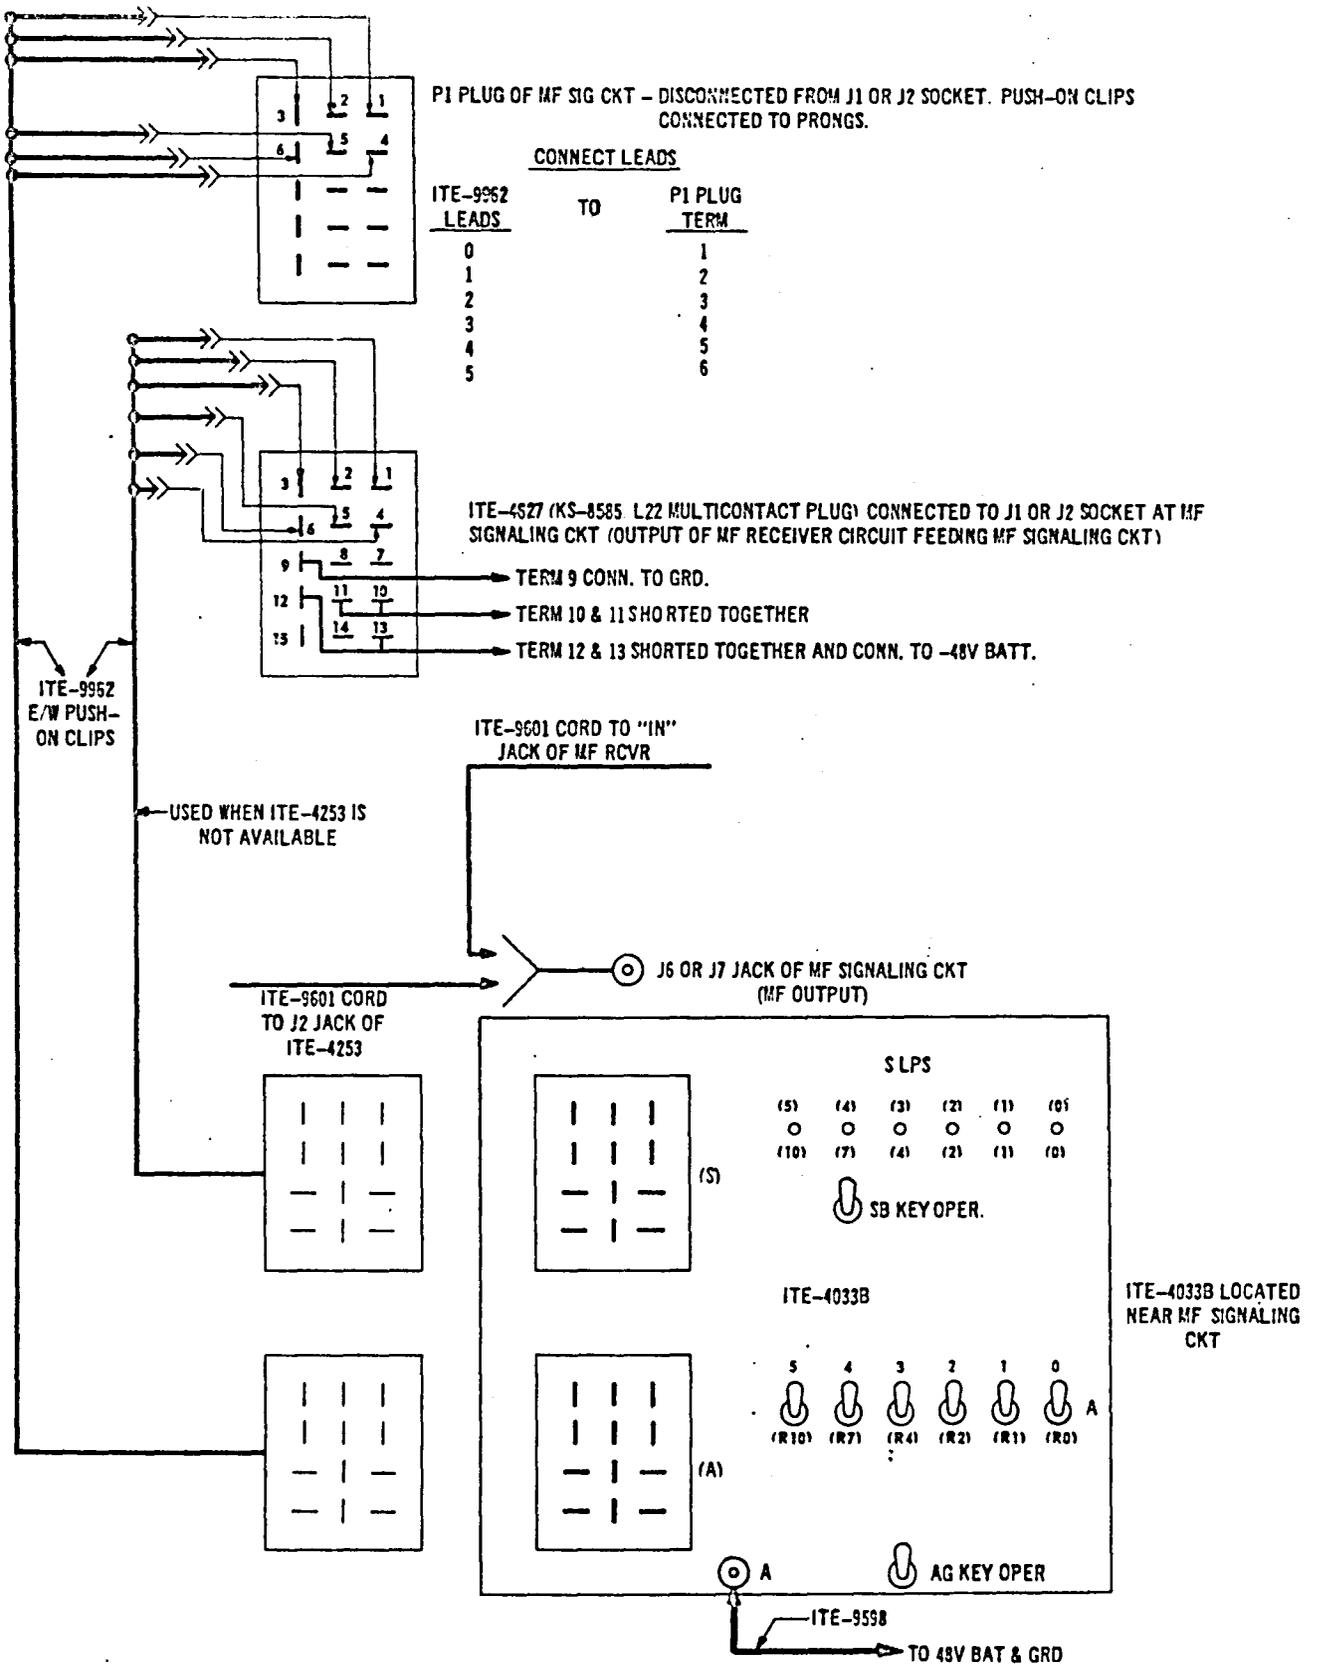

FIG. 1 TEST SETUP FOR OPERATION TESTS AT CONTROL END LOCATION
8.121 At the MF Signaling Circuit, disconnect the P1 plug from the J1 or J2 multicontact socket. At the ITE-4033B, connect the socket of an ITE-9962 cord into the (A) plug on the test set. Insert ITE-4085 Push-On Clips into the ITE-2461 sockets of six leads at the other end of the cord and connect to the prongs of the P1 plug as shown below: (See Figure 1)
8.124 MF Signals Detected With Local MF Receiver (See Figure 1)
8.1241 At the MF Signaling Circuit, connect an ITE-4627, 15-point blank multicontact Jones plug to the J1 or J2 socket for the working MF Receiver. Using an ITE-9962 cord, connect ITE-4085 Push-On Clips to the first six ITE-2461 sockets at one end of the cord. Connect the push-on clips to the wiring terminals of the ITE-4627 as shown in Figure 1. Connect sockets 0-5 to the terminals numbered 1-6 of the multicontact plug. Connect the socket end of the ITE-9962 cord to the (S) multicontact plug on ITE-4033B. Operate key SB on the test set. (See Figure 1).